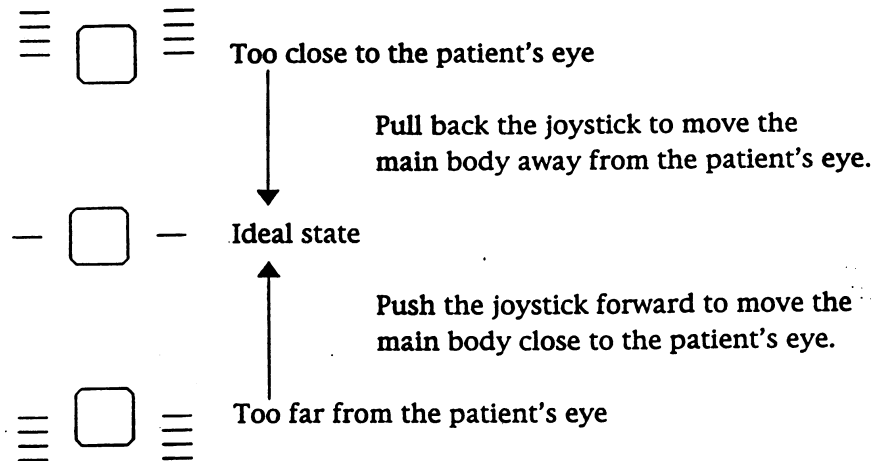

Figure 3-5. Focusing the SP's eye
- Use the focusing indicator, called a mire ring, to focus on the center of the eye. Move the top portion of the unit forward slowly. A series of lines will appear to the left and right of the mire ring (Figure 3-5).